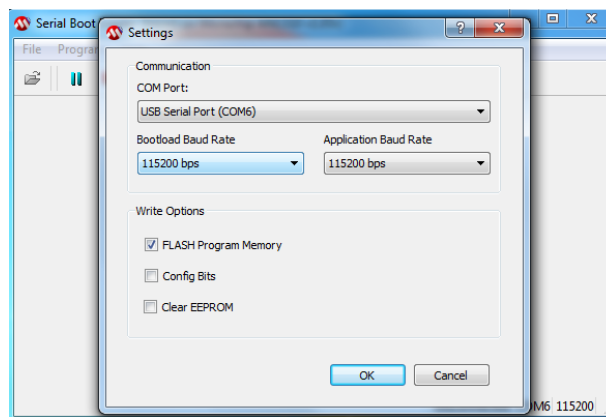

Figure 12. Settings menu.
6. Configure the COM Port to match the USB cable's COM address (Figure 12; COM6 in the example). Other settings should be left to their default values as shown in Figure 12. Press OK and return to the main program